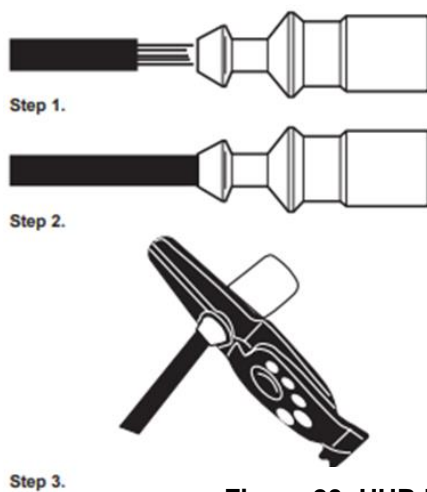

Figure 20: HHB Fuse Holder Installation
3. Crimp terminal through body. The recommended crimp pressure range is 160 MPa ~ 210 MPa, the preferred pressure is 180 MP. See **Figure 20: HHB Fuse Holder Installation**
5. Repeat steps 1-3 for other half of the holder. See **Figure 20: HHB Fuse Holder Installation**